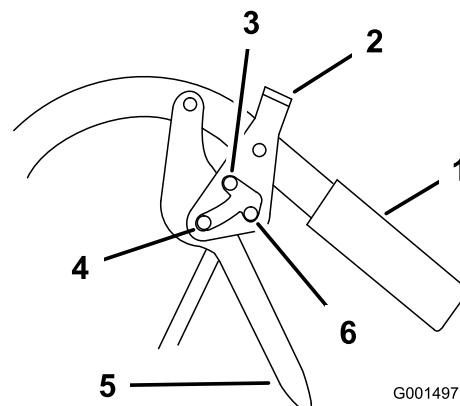

Figure 7
1. Squeeze the drive levers (Figure 7).
2. Place your thumbs on the upper part of the locks and move them forward in into the **park** position (Figure 7).
1. Squeeze the drive levers back (Figure 7).
2. Place your thumbs on the upper part of the locks and move them rearward until they are in the **drive** position (Figure 7).
2. Place your thumbs on the upper part of the locks and move them rearward into the **neutral lock** position (Figure 7).
2. Place your thumbs on the upper part of the locks and move them forward until they are in the **drive** position (Figure 7).